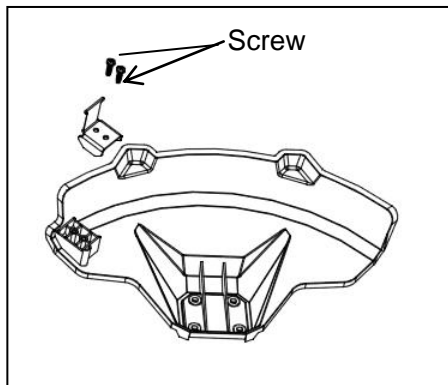
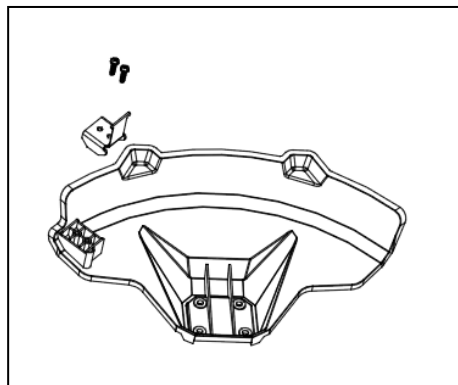

Fig. 12A
Fig. 12B
2. Remove both screws on the cut-off blade with a hex wrench. (Fig. 12A)
3. Rotate the cut-off blade 180°. (Fig. 12A/Fig. 12B)
4. Re-assemble both screws in the blade. (Fig. 12B)